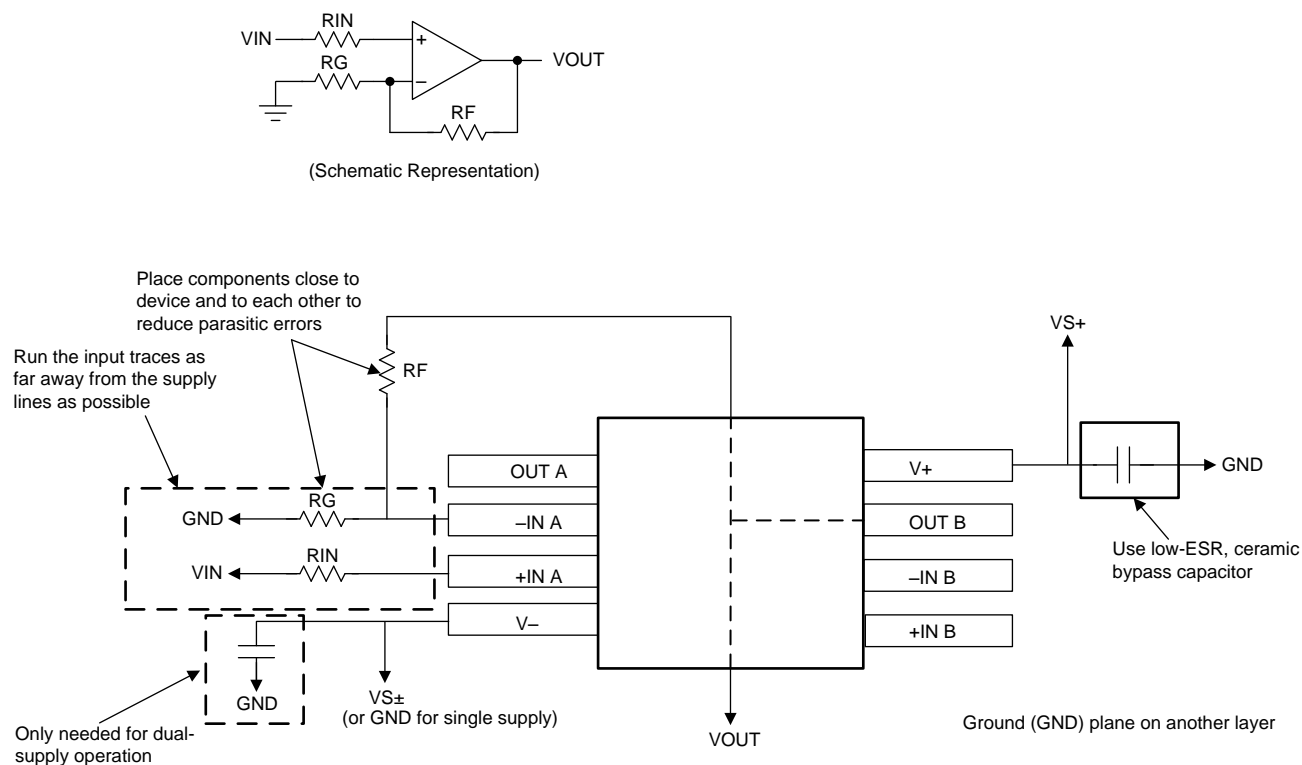

Figure 46. Operational Amplifier Board Layout for Noninverting Configuration
- Place the external components as close to the device as possible. As shown in Figure 46, keeping RF and RG close to the inverting input minimizes parasitic capacitance.